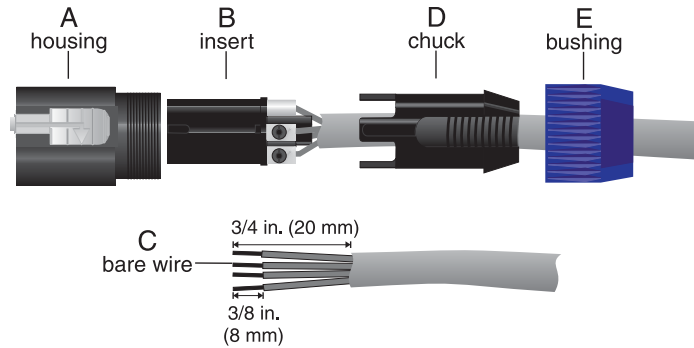

Figure 1.12
1. Slide the bushing (E) and chuck (D) onto the end of the cable as shown in Figure 1.12.